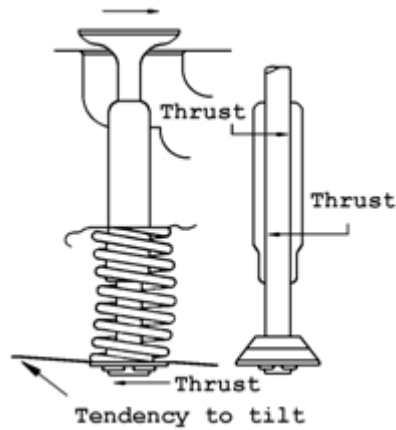

Fig.33
- This places a side thrust on the valve stem and gradually wears the guide thus preventing the valve from closing properly (see Fig. 33 next page).